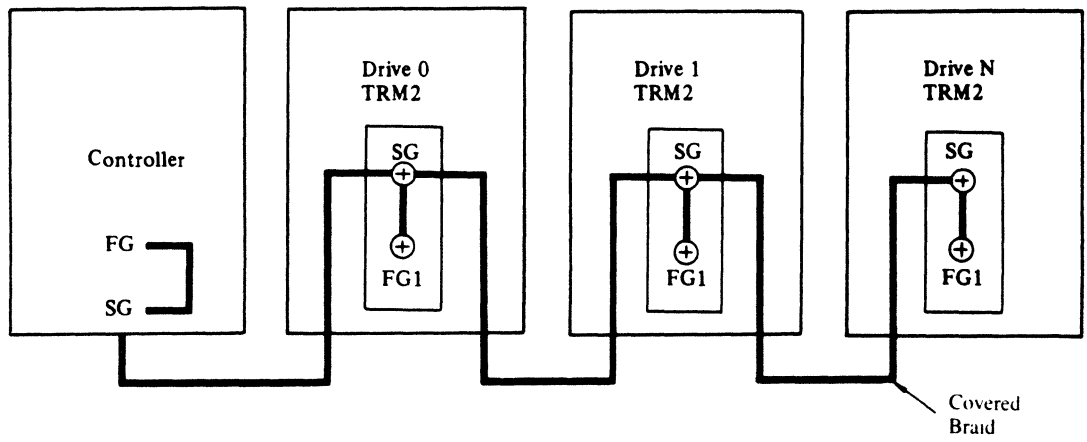

Fig. 4.3-3 SG/HI Z FG2 Common
- (a) Connect SG to FG1 with the shorting plate. Connect a flat braid wire from SG to controller ground. If daisy-chained, daisy-chain the braid from SG to SG as shown in Figure 4.3-3.